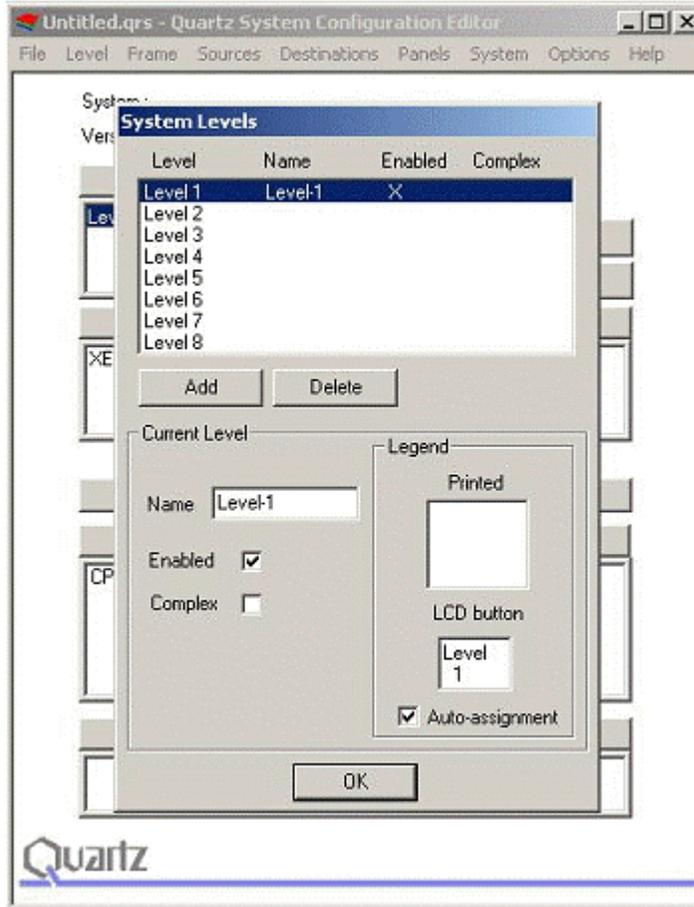

Figure 2-13: WinSetup System Levels
5. In the *Write levels* section set which router levels will be included in any crosspoint set message sent by the 7700PTX-MVS to the router. These levels must match that configured on the router using WinSetup. Figure 2-13 shows the level configuration for our example. Thus, we would need to set only level 1 as our write level.